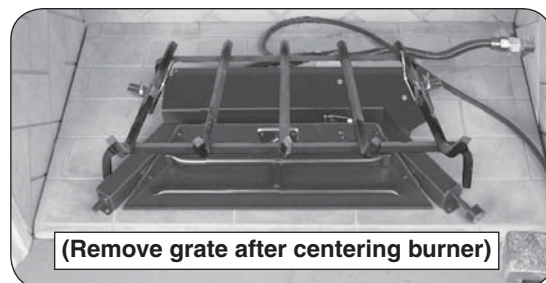

Fig. 13-3 Position grate
2. Position the grate over the burner pan, ensuring the assembly is centered from left to right (see Fig. 13-3).